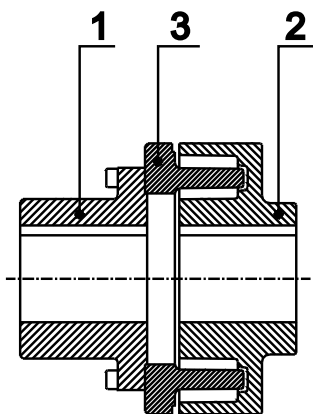

Figure 10: TEX-O-flex D3
Driving claws (3) can be unbolted, rotated and withdrawn, allowing access without axial displacement (see Figure 10: TEX-O-flex D3).